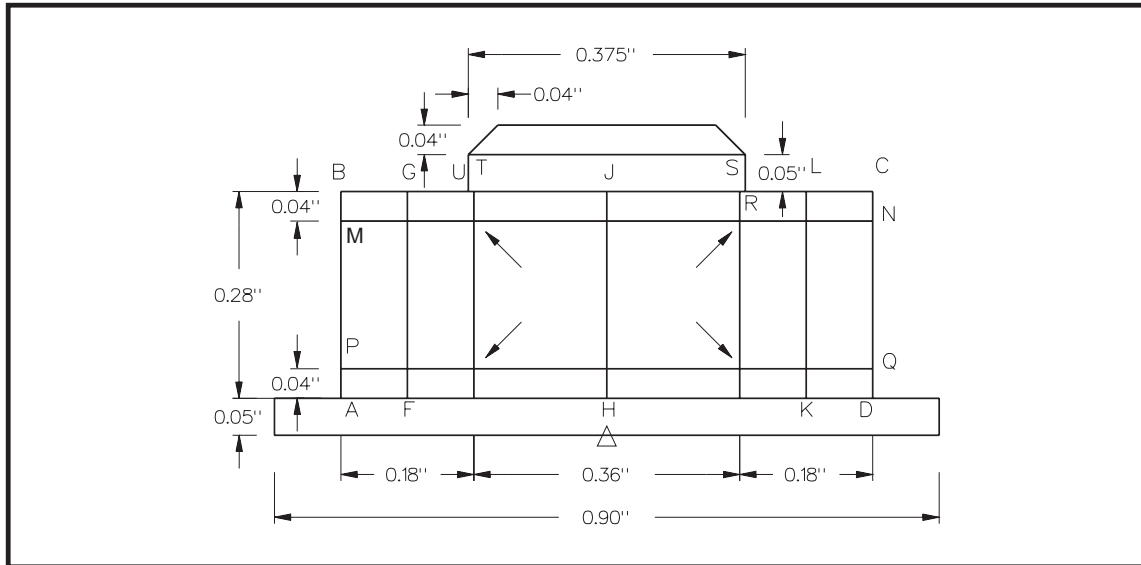
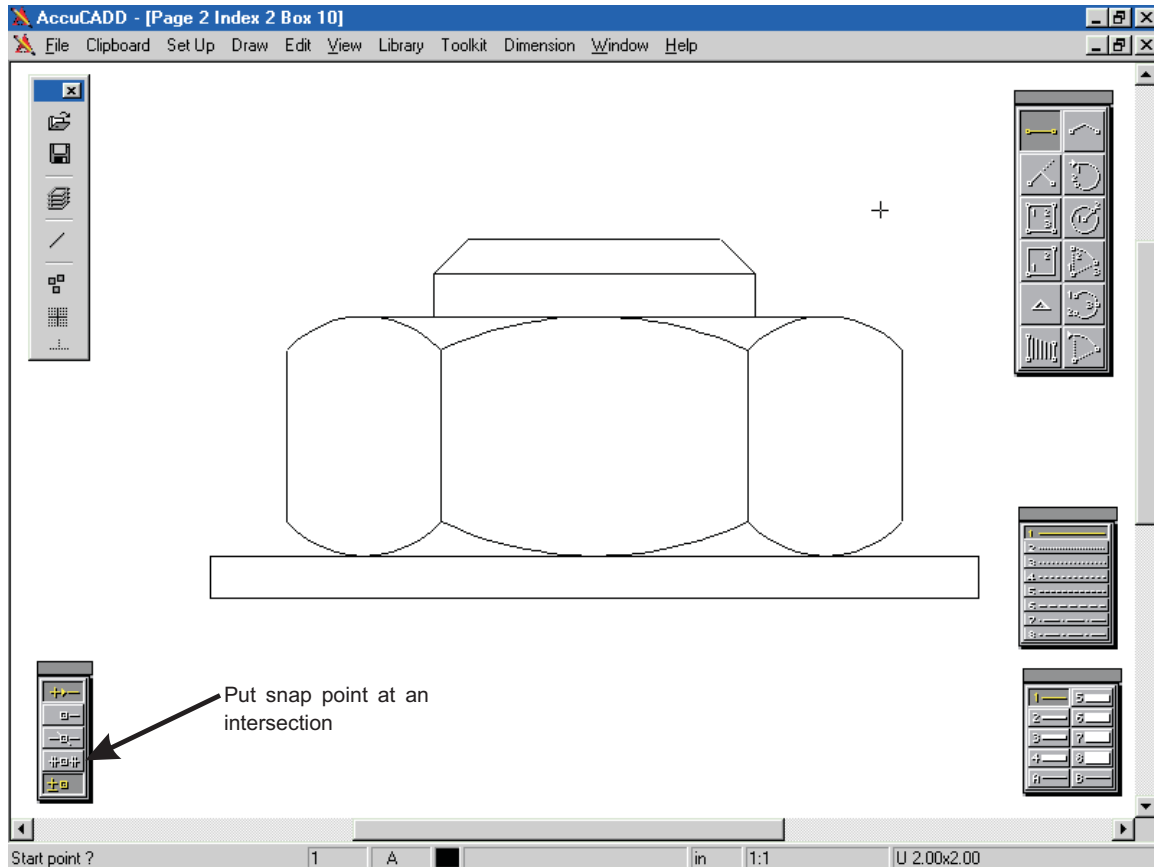

Figure 29: Nut/Washer outline
Figure 30: Completed nut and washer
Our objective is to draw a combination nut and washer, Figure 30, which will be inserted four times into the main drawing.
- In line mode, touch the handle (that’s the triangle in Figure 29) to set the datum.
□ Select Points display, then activate the “intersection locator” (Figure 30). Touch the intersections arrowed in Figure 29, turning them into snap points.
□ Add 3-point arcs, as shown in Figure 30 (touch first one endpoint then the other, then set the circumference marker to the middle point).